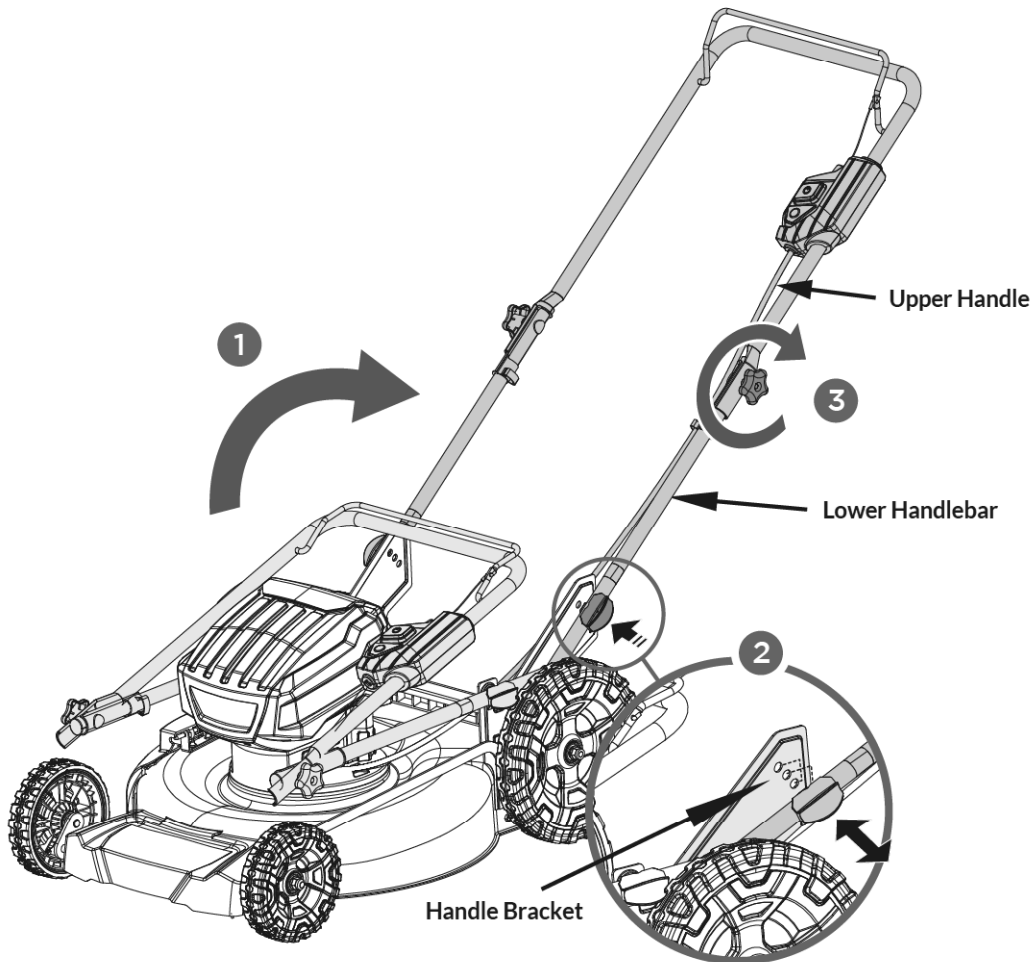

Figure 2
1. Slowly move the folded handlebars back to the working position. (See **Figure 2, illustration 1**)
2. Pull out the lower handle knob and insert in one of the 3 handle bracket predrilled holes to select the desired handle position. Release the knob to lock it into place. (See **Figure 2, illustration 2**)
3. Tighten the star shaped knobs and carriage bolt connecting the upper and lower handlebars (See **Figure 2, illustration 3**)